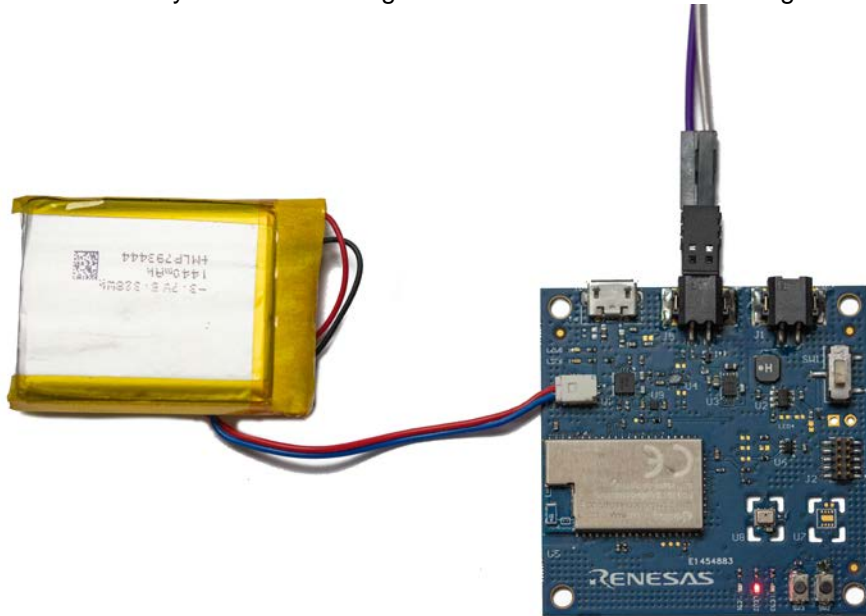

Figure 3. Battery and Water Leakage Sensor connection
- Connect battery and water leakage sensor wire as it is shown in Figure 3